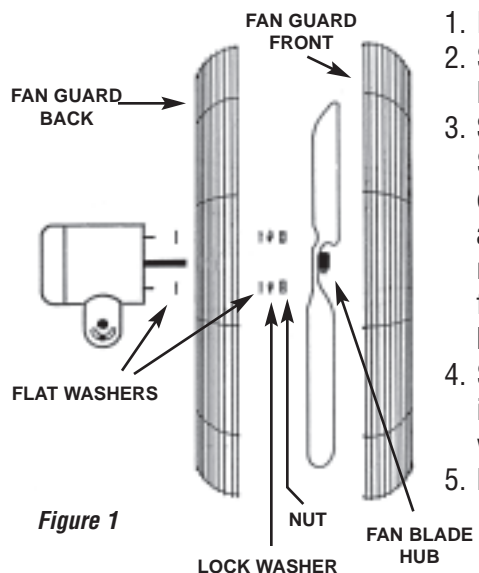

Figure 1
2. Secure back half of fan guard to studs on face of motor using washers, lock washers and hex nuts. (See fig. 1)
3. Secure blade to motor shaft, with hub facing away from motor (Discharge Side) for commercial and industrial models. Tighten set screw to flat side of motor shaft. **WARNING:** Do not tighten set screw to round side of shaft as it will cause damage to shaft and blade could come off. Set screw must be tightened to flat of motor shaft. Failure to align and tighten to flat on shaft may result in damage to shaft or may allow blade to come loose.(See fig. 1).